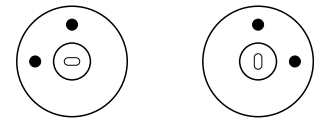

fig 1. Bracket Positions
Position brackets (C) on wall with grub screw holes as shown in figure 1 for maximum tolerance and rigidity before tightening screws (D).